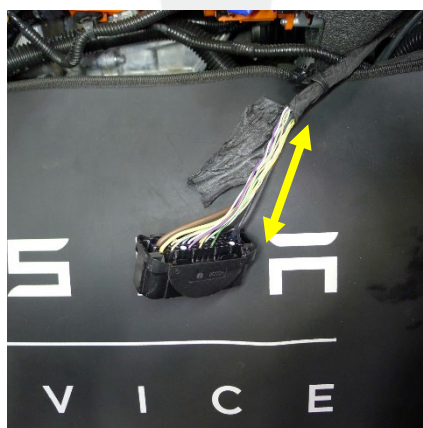

Figure 8
9. Unwrap and remove the electrical tape from the electrical harness for a distance of 150 mm from connector X151 (Figure 8).